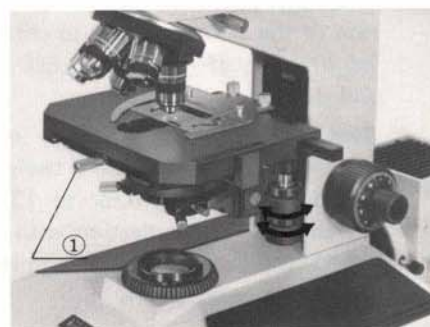

Fig. 9
3) Bring the portion of the specimen for observation into the light path by means of the low drive control knobs. (Fig. 9)
- ★ Tighten the stage clamping screw ① in the microscope front.
- To rotate the stage loosen the stage clamping screw ① and holding this screw, rotate the stage into the desired direction. (Fig. 9)